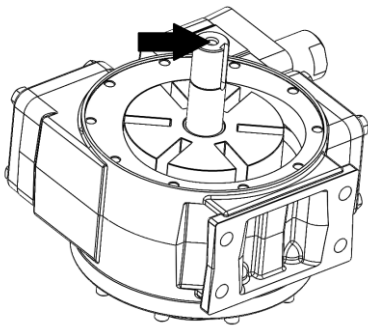
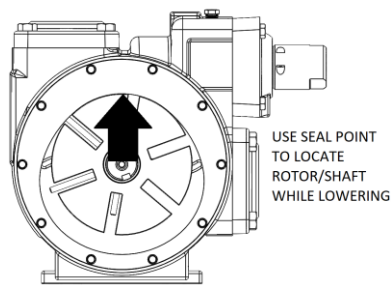

Figure 8 – Location of Rotor/Shaft Lifting Lug
Figure 11 – Rotor/Shaft Installation Tip
- Remove the valve cap (1) turn the adjusting screw (2) to relieve the spring pressure.
- Remove the relief cover capscrews (5) and relief valve cover (4)
- Remove the spring guide (7), spring (8), and valve (9) from the relief valve bore.
- Remove driven magnet assembly (52) and key (35A). Set driven magnet assembly on a nonmagnetic surface, away from any magnetic components.
- Slide inboard head (20) up wet end shaft (13) and set aside. Head may require light prying around outer diameter, if it is difficult to remove. Remove and discard o-ring (72).
- Remove vanes (14). And inspect for wear.
- Carefully remove rotor/shaft (13) from the pump cylinder. A lifting lug (5/16-18 UNC thread) can be installed in the end of the rotor/shaft to aid in removal. See Figure 8. Ensure that rotor/shaft isn't damaged and that it doesn't damage the cylinder, bushing, or head.
5. Install a new bearing cover o-ring (26) in the groove in the outboard head. Place the bearing cover (27) on the head. Lubricate the bearing cover capscrews (28) with a quality grade of anti-seize compound and install. Torque to the correct specification.
7. Inspect the vanes (14) and push rods (77) for wear and damage, and replace as follows:
- a. The push rods MUST be installed before installing the rotor and shaft (13) into the pump cylinder. To do so, hold the rotor and shaft vertical, with the non-driven (shorter end) down. See Figure 8 for optional location of lifting lug to aid in installation. Slide the push rods into the push rod holes of the rotor, then insert the rotor/shaft into the open end of the pump cylinder. See Figure 8 for optional location of lifting lug to aid in installation. Do not let rotor/shaft drop or damage bearing bushing. Push rotor towards seal point, while lowering, to help guide the shaft into the bushing See Figure 11.